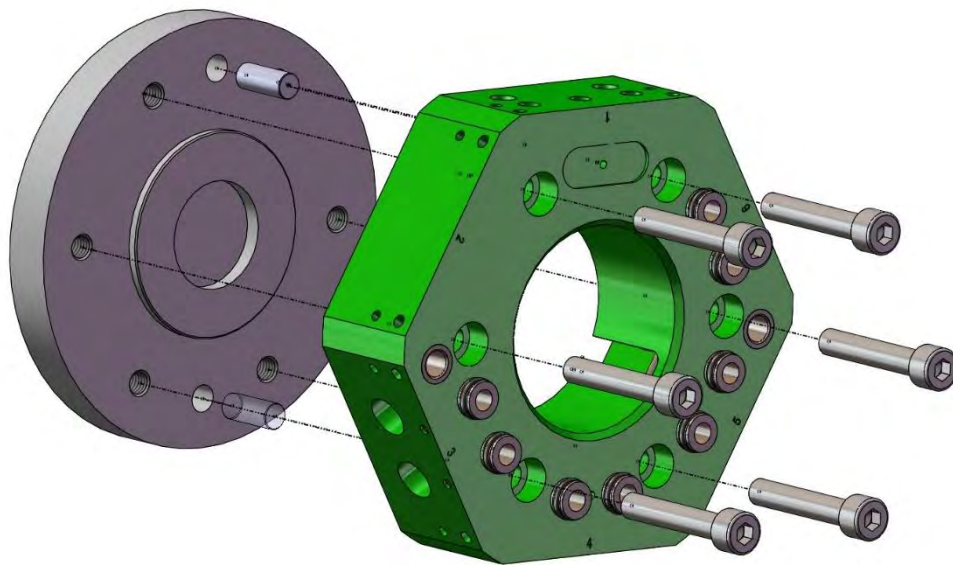

Figure 5.2-2. ET100 Tool Adaptor Installation (Bolt Top Down)
1. Locate the Tool Adaptor to the tool plate utilizing either the locating hub and one (1) M8 locating dowel, or two (2) M8 locating dowels (Figure 5.2-2).